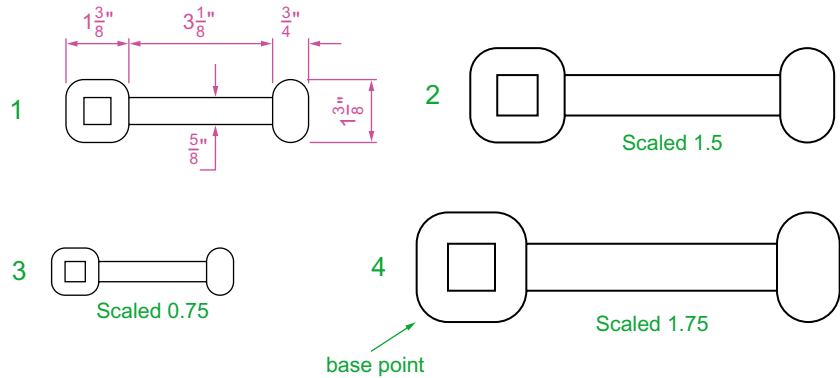

Fig. 5.29 Examples – Scale
### Examples – Scale (Fig. 5.29)
1. Using the **Rectangle** and **Polyline** tools, construct drawing **1** of Fig. 5.29. The **Rectangle** fillets are R10. The line width of all parts is **1**. Copy the drawing 3 times to give drawings **2**, **3** and **4**.
The results are shown in Fig. 5.29.